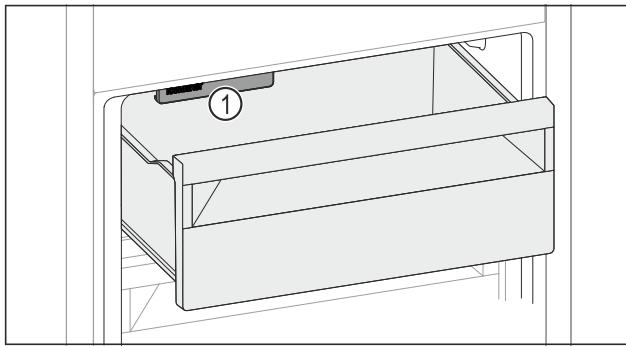

Fig. 170
2. Watch out for the IceMaker Fig. 170 (1).